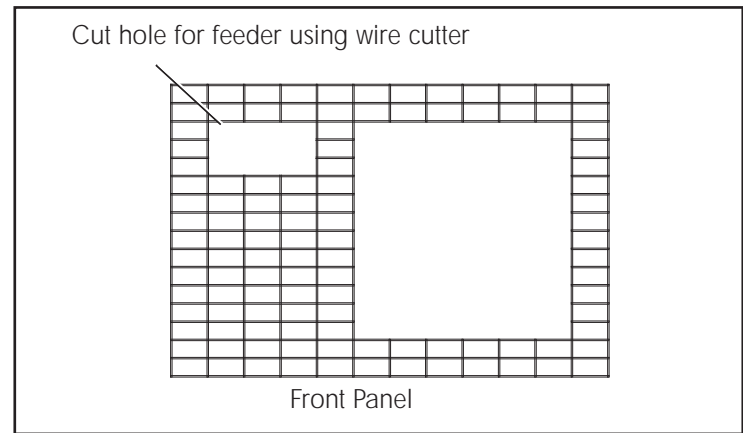

Figure 2
NOTE: If you want to put the door on the left side of the front panel, reverse the positions of the door and feeder holes in Figure 2 and 3.
1. Cut out a hole in the front panel for the feeder using a wire cutter. See Figure 2.